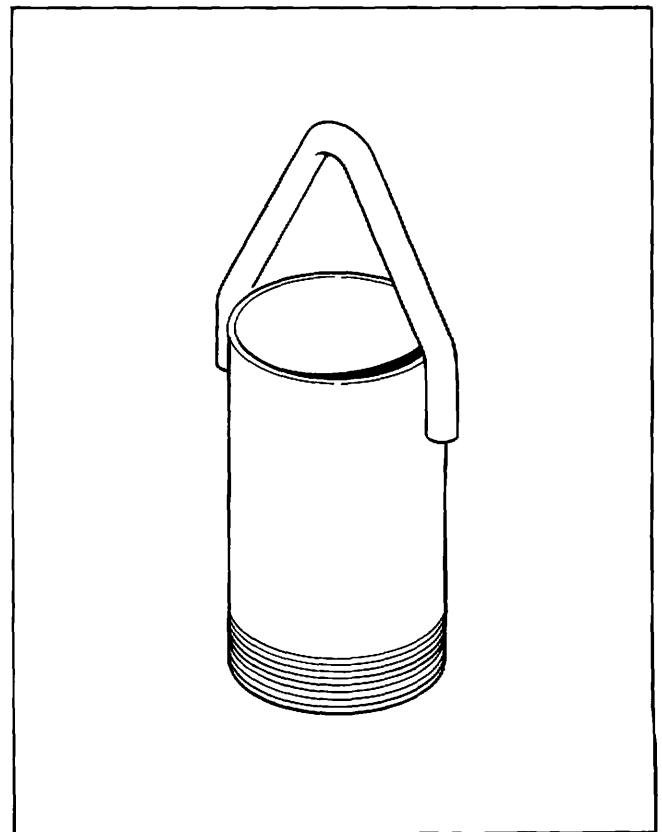
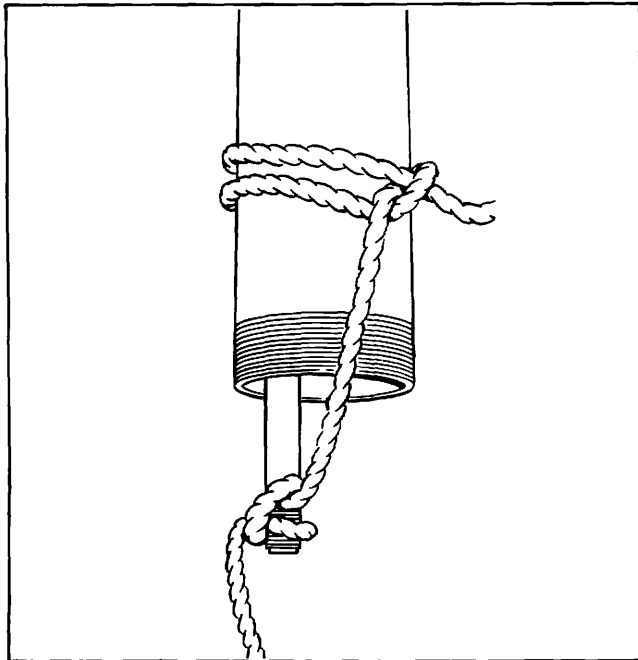

Figure 8. Bail Fitting
Figure 13. Securing Shaft Assembly
*As an alternate to one set of elevators, you may want to use a bail fitting, as shown in Figure 8, to lift these small column joints. The remaining set of elevators is then used to hold the load when changing the bail fitting. The instructions in this manual will describe only procedures with two sets of elevators.
make this lift using the bail fitting described in Section 4 Figure 8. Secure a timber hitch knot with your rope around the pipe about one foot from the thread end away from the well. Place a double reverse half hitch around the shaft on the threads as illustrated in Figure 13.